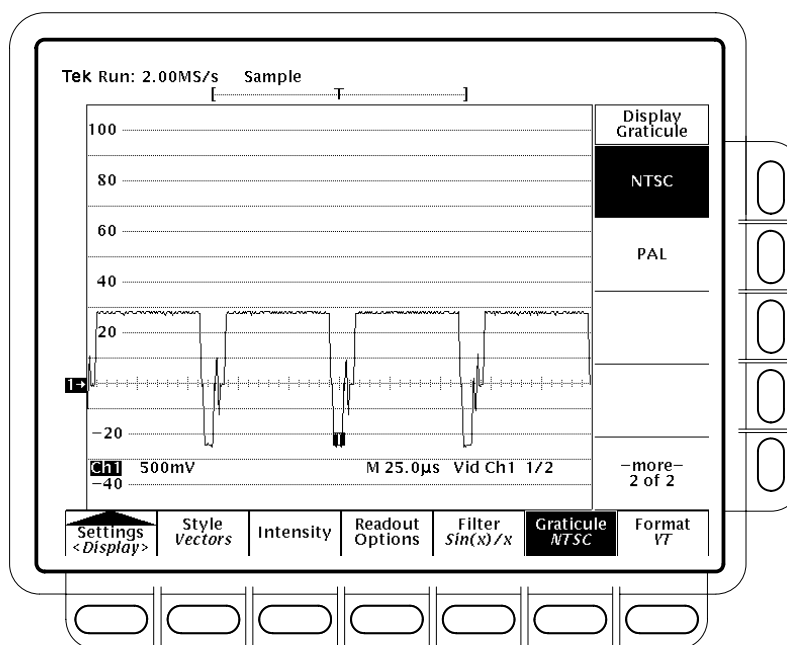

Figure 1–8: Display Menu — *NTSC* Graticule
3. If you are using the *NTSC* standard, press **NTSC** (see Figure 1–8). If you are using the *PAL* standard, press **PAL** (see Figure 1–9).